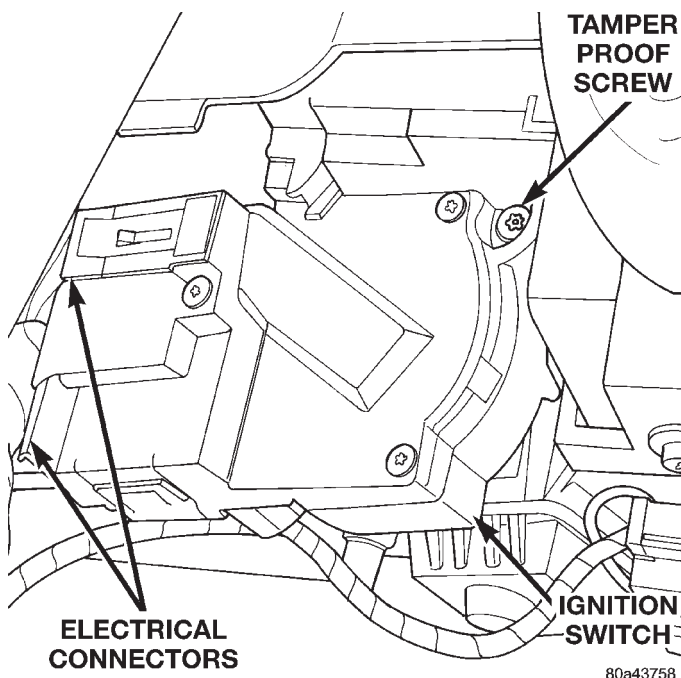

Fig. 46 Ignition Switch Removal/Installation
- (3) Remove ignition switch mounting screw (Fig. 46). Use tamper proof torx bit (Snap-On® SDMTR10 or equivalent) to remove the screw.
- (5) Disconnect two electrical connectors at rear of ignition switch (Fig. 46).